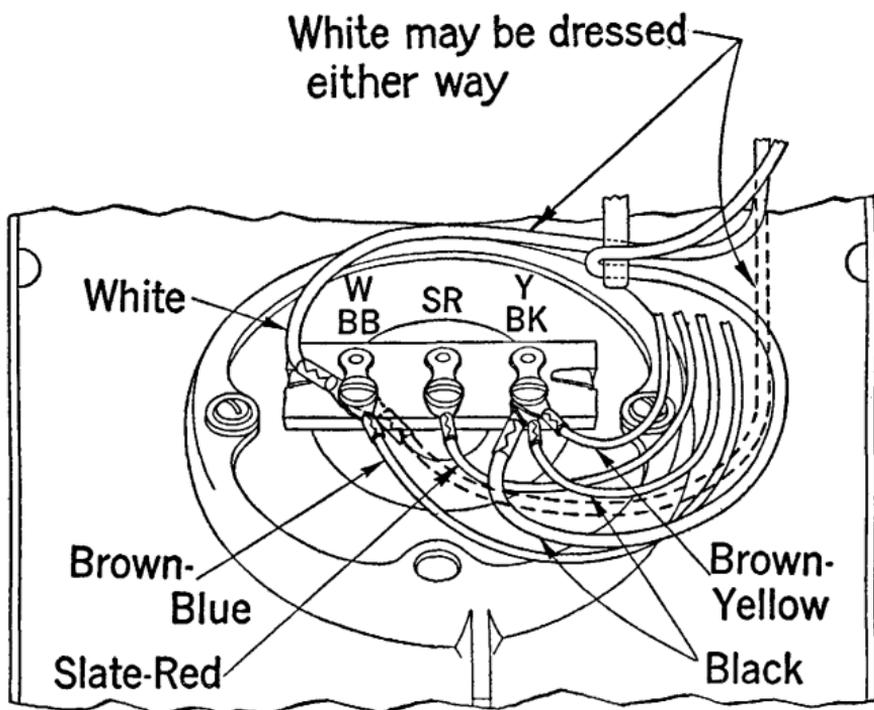
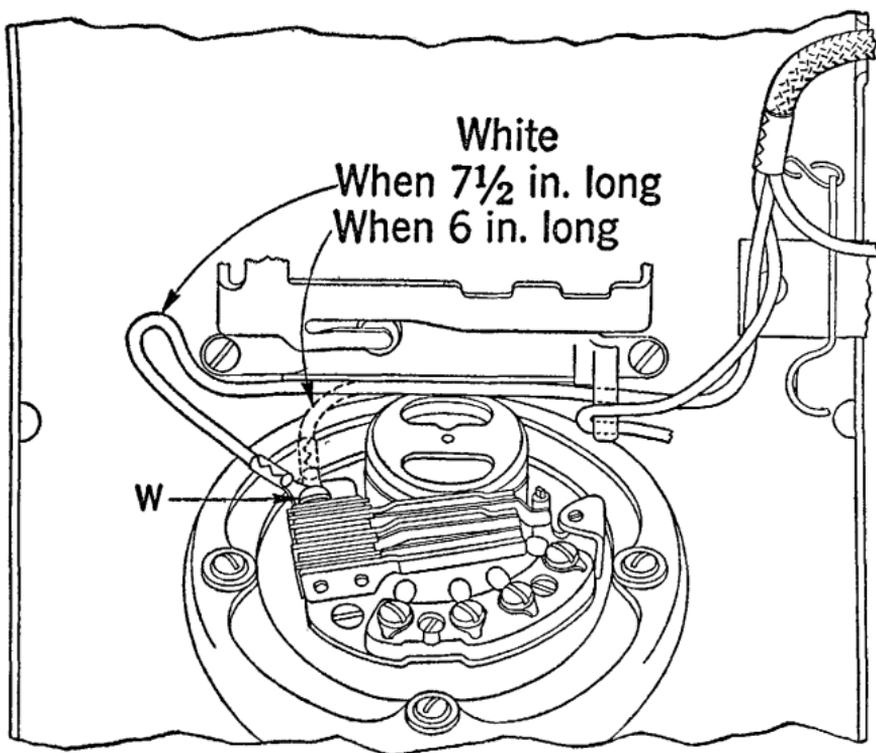
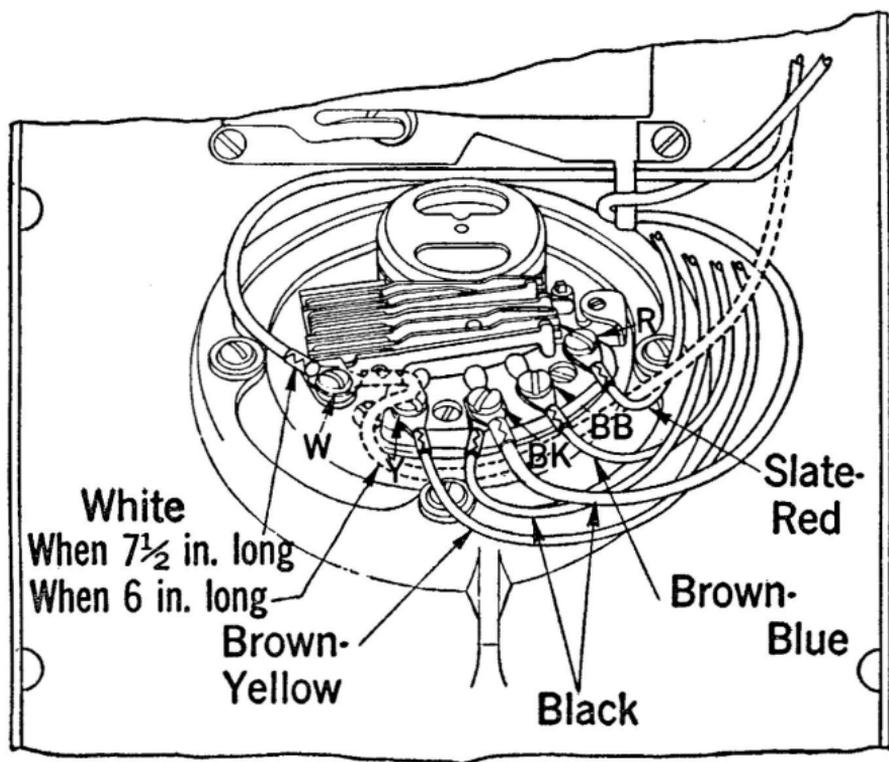
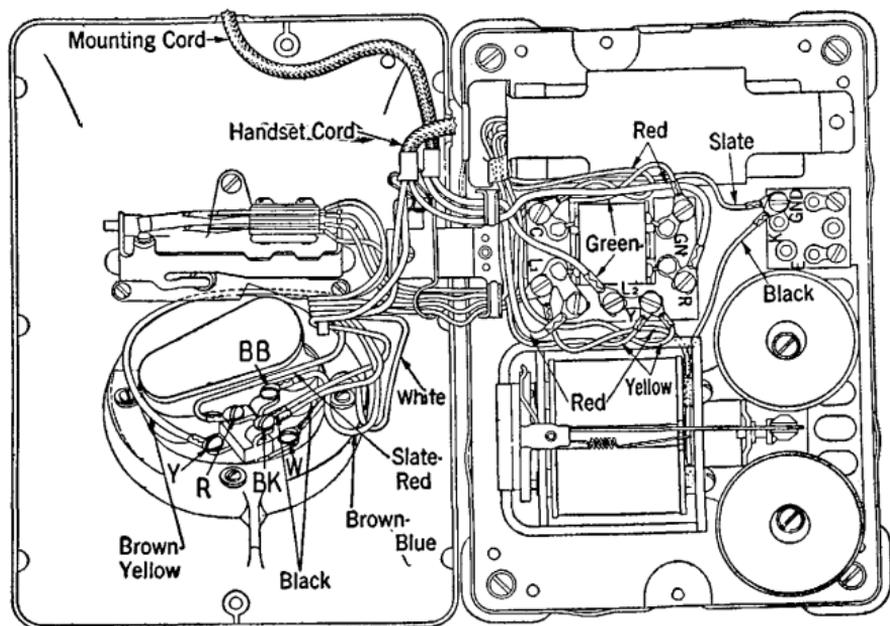

Fig. 1—82A Apparatus Blank
Fig. 2—Single Contact 4- or 5-Type Dial
Fig. 3—Twin Contact 4- or 5-Type Dial
Fig. 5—D-173487 (2 conductor) 302B, 302C and 302D Telephone Sets
2.03 Manual sets are corded the same as dial sets of similar code number in accordance with the applicable figure of Figs. 5 to 21, inclusive, except for the variations caused by the presence of an apparatus blank in the manual sets instead of a dial. The cording at the apparatus blank should be as shown in Fig. 1.
2.04 The cording of dial sets equipped with 6-type dials and with standard Western Electric Company's or Connecticut Telephone and Electric Company's handsets should be in accordance with the applicable figure of Figs. 5 to 21, inclusive. The same information applies to sets with 4- or 5-type dials except for the dial cording which should be as shown in applicable figure of Fig. 3 or 4 for dials with twin contacts and as shown in Fig. 2 for dials with single contacts.
Note: Fig. 1 shows the cording of the apparatus blank of D-173487, 302A, 302E, 303A, 305A, 305E and 306A telephone sets. The other manual sets, 302AA, 304A, 307A, 307E, 309A and 329A, have similar cording except for variations in the number and color of the conductors terminating at the apparatus blank of these sets.
Note: See Fig. 5 for cording of housing.